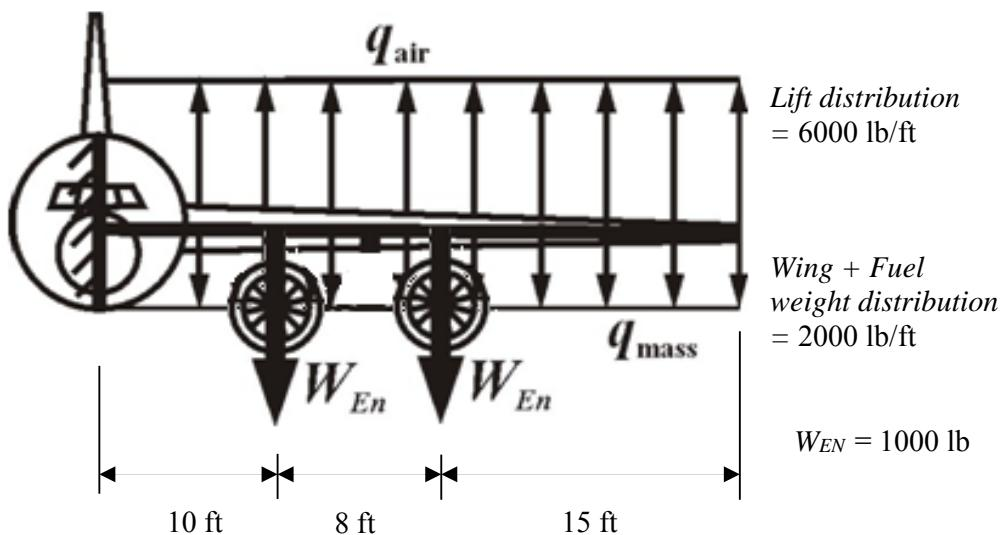

Figure 2/Rajah 2
2. Using Figure 2 shown below, draw the load, shear and bending moment diagrams.